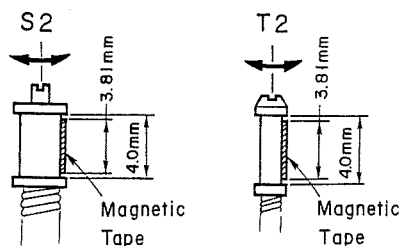

Fig. 6.19 S2, T2 Height Preset
5. Visually check the tape travelling, and adjust S2/T2 guide height with a Guide Adjuster so that the tape travels in the middle of the guide as shown in Fig. 6.19.